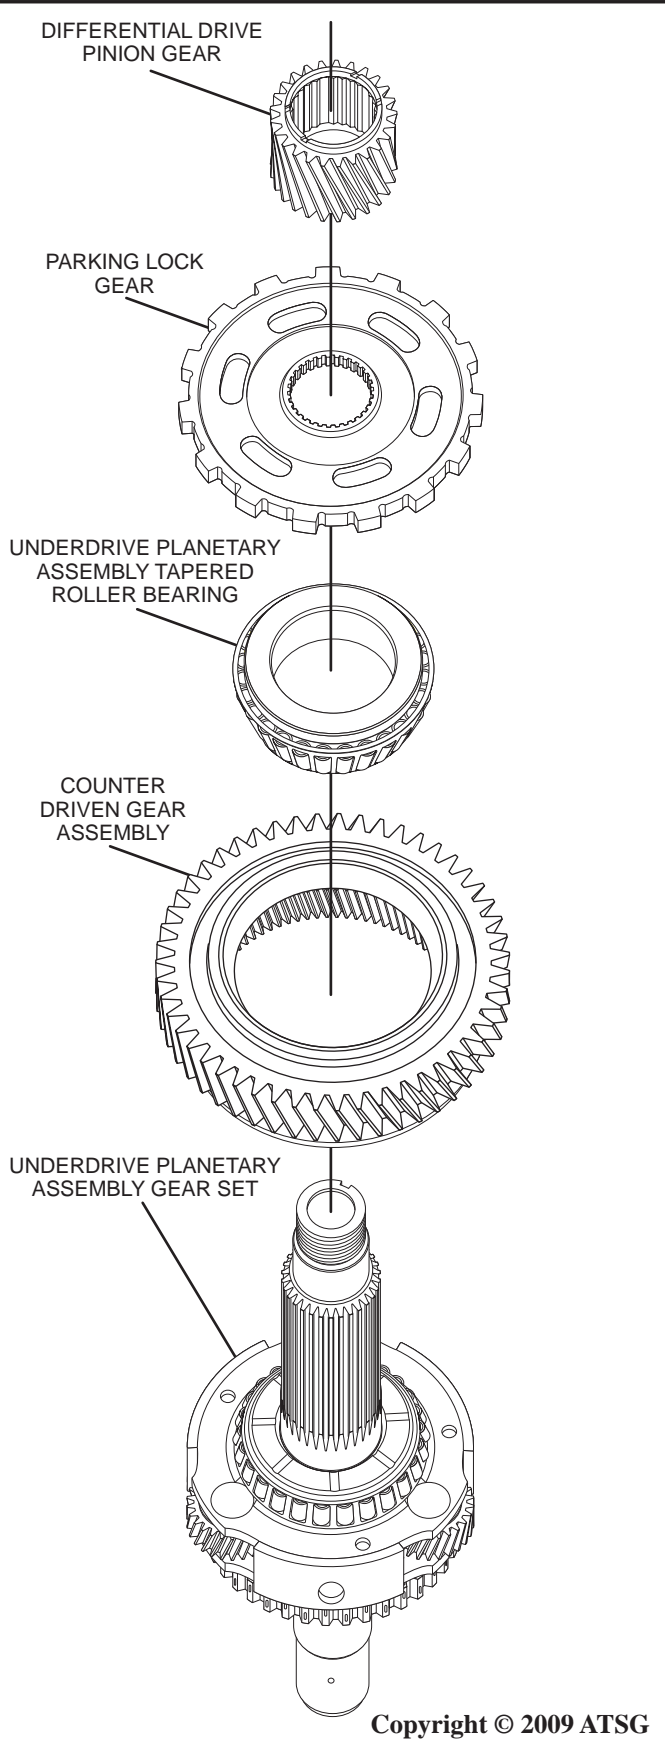

Figure 71
- Using SST 09387-00050 or an equivalent support for the counter driven gear assembly and a press, press the underdrive planetary assembly gear set down through the counter driven gear assembly, then remove the differential drive pinion gear, parking lock gear, underdrive planetary assembly tapered roller bearing, and the counter driven gear assembly from the underdrive planetary assembly gear set as shown in Figure 71.